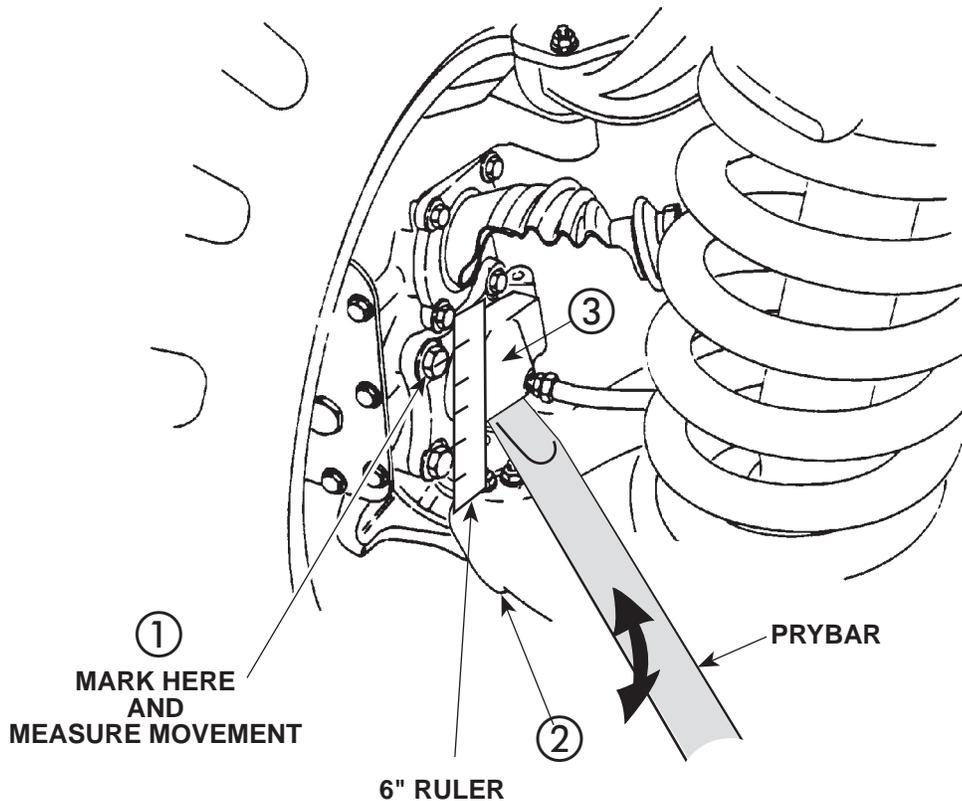

Figure 7-2. Lower Ball Joint Inspection.
**b. Ball Joint Inspection (Figure 7-2)**